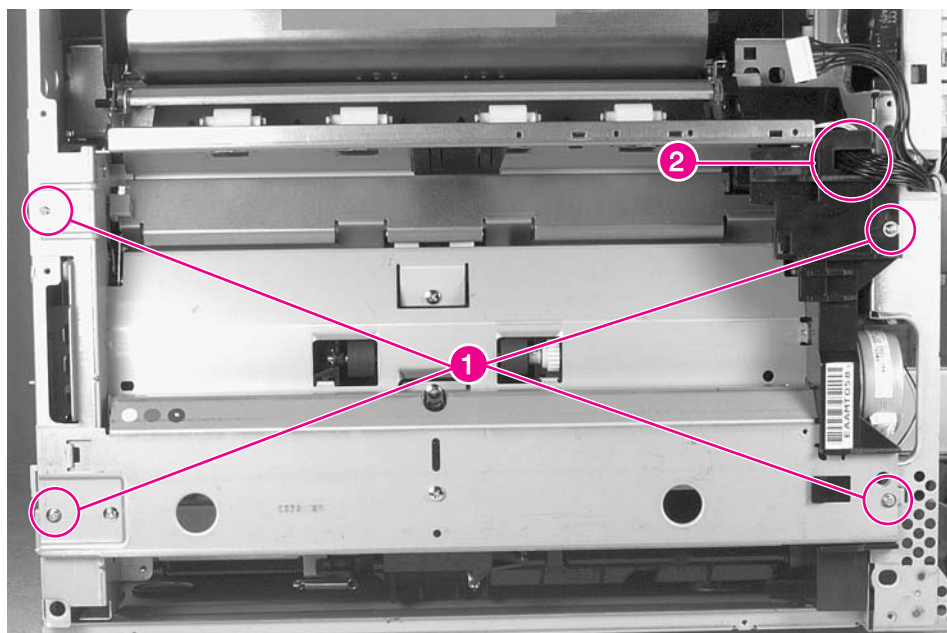

Figure 6-42 Paper Input Unit
- Paper Input Unit (PIU) (see figure 6-42 on page 260)
- 5 Remove 4 screws (figure 6-42, callout 1).
- 6 Slide the assembly out from the chassis approximately 3 inches, and unplug the connector inside the right end (figure 6-42, callout 2).